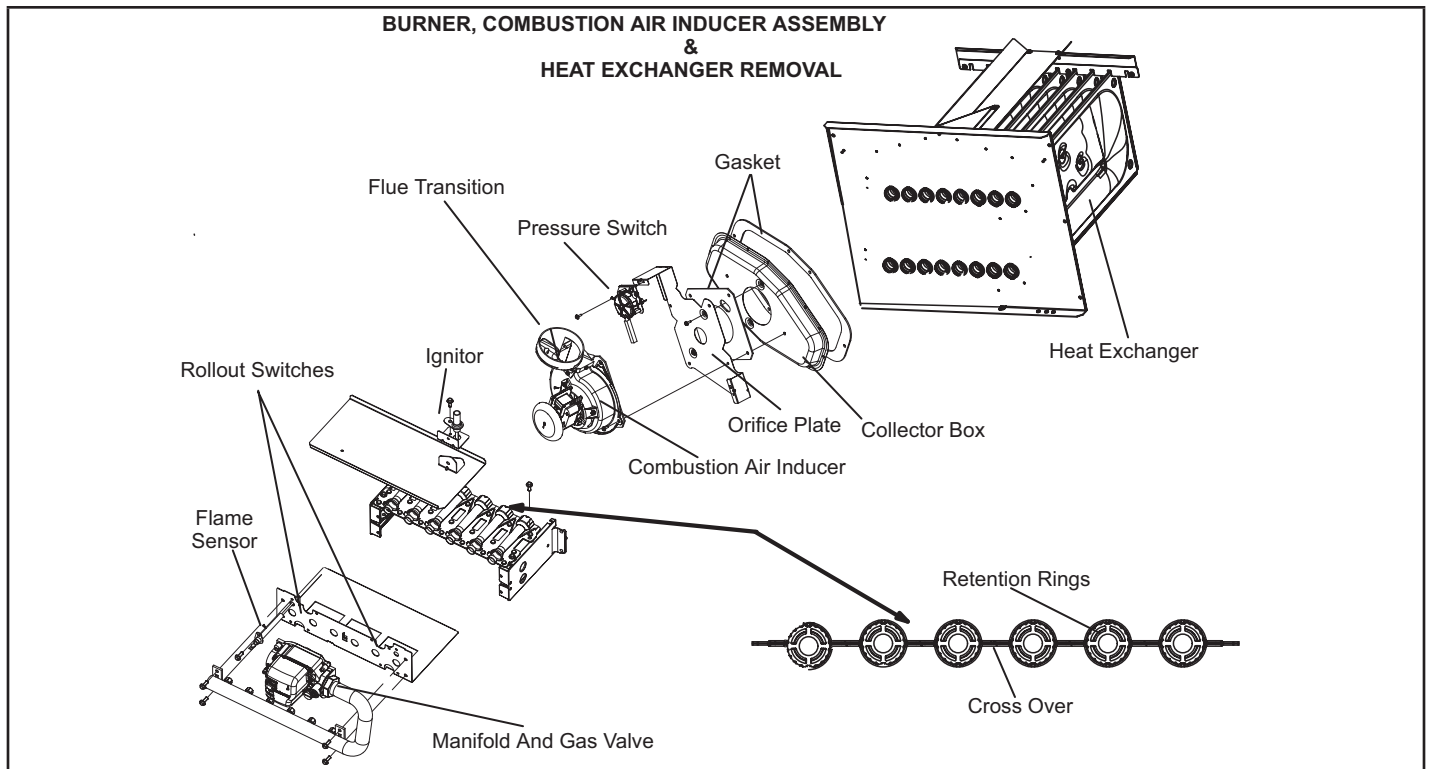

FIGURE 29
- 10 -To clean burners, run a vacuum cleaner with a soft brush attachment over the face of burners. Visually inspect inside the burners and crossovers for any blockage caused by foreign matter. Remove any blockage. FIGURE 29 shows burner detail.